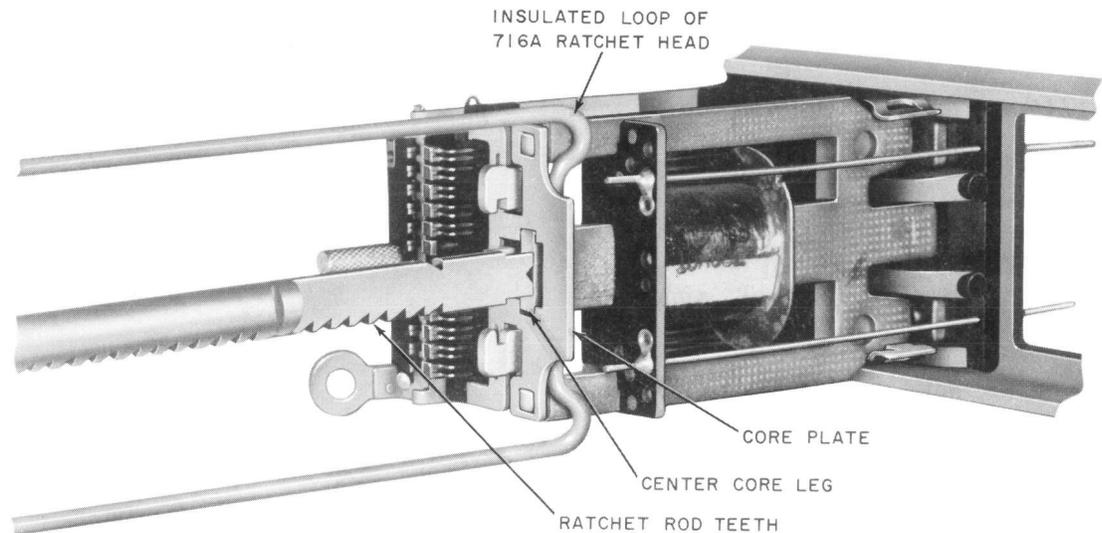

Fig. 28—12-Position Relay—Removing Core Plate
- (b) Position the insulated loop of the 716A ratchet head behind the core plate with the ratchet rod in line with and against the center core leg as shown in Fig. 28. Make sure that the rod teeth are positioned downward and that the straight vertical portion of the loop engages the rear of the core plate. Hold the tool so that the rod is in line with the core leg, and pull the trigger until the core plate is freed from the relay. Withdraw the ratchet tool with the core plate.